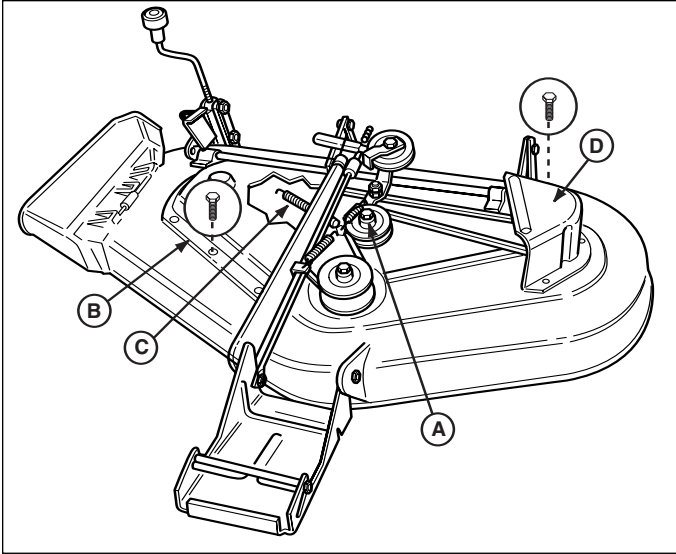

Figure 55. Mower Deck
3. Remove the capscrews securing the right-hand arbor cover (B, Figure 55). Remove three capscrews securing left-hand arbor cover (D).
4. Using a pair of locking pliers or a spring puller, remove the idler pulley spring (C, Figure 55) from slot in deck.
5. Loosen capscrew (A, Figure 55) securing the idler pulley to the bracket. The belt can now be slipped between the pulley and idler bracket hub.
7. Tighten the capscrew (A, Figure 55).
8. Reinstall spring (C, Figures 55) into its slot in mower deck.
9. Reinstall the left and right arbor covers (B and D, Figures 55).